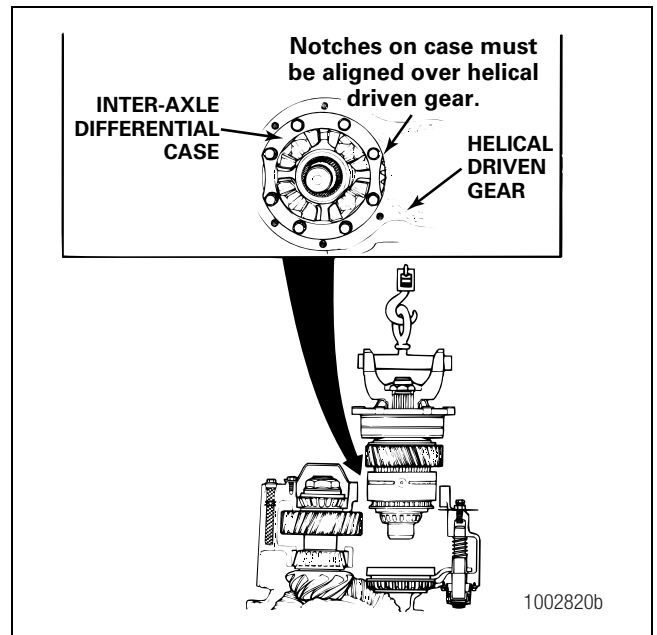

Figure 5.80
- C. On 160 Series carriers, rotate the inter-axle differential case so that one of the notches on the case is aligned with the helical driven gear in the carrier. Figure 5.80.